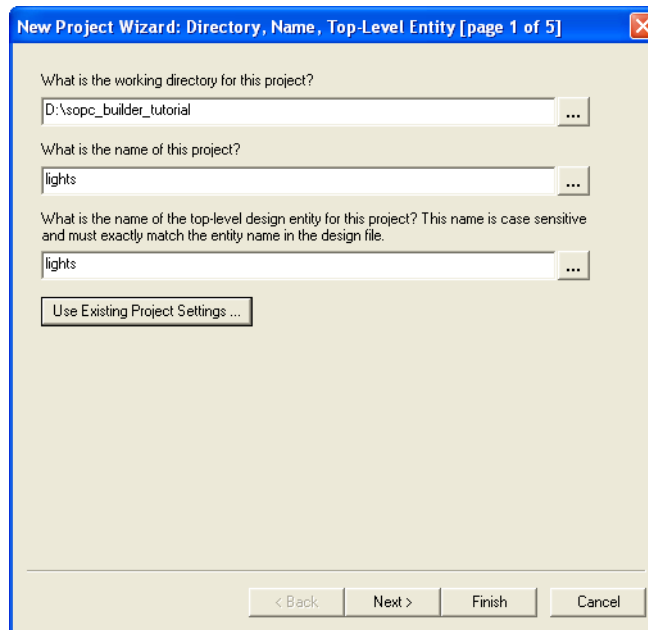

Figure 3. Create a new project.
1. Create a new Quartus II project for your system. As shown in Figure 3, we stored our project in a directory called *sopc_builder_tutorial*, and we assigned the name *lights* to both the project and its top-level design entity. You can choose a different directory or project name, but be aware that the SOPC Builder software does not permit the use of spaces in file names. For example, an attempt to use a directory name *sopc_builder tutorial* would lead to an error. In your project, choose the EP2C35F672C6 chip as the target device, because this is the FPGA on the DE2 board.